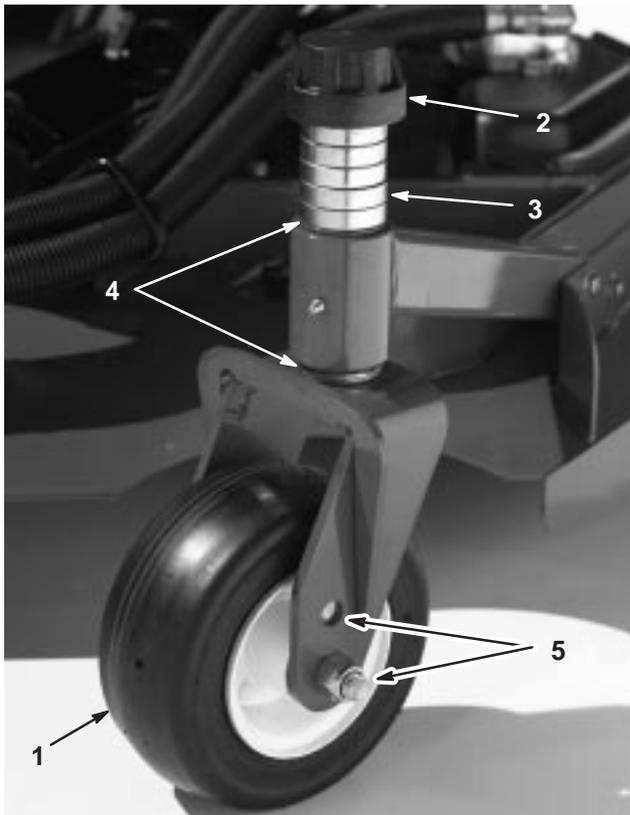

Figure 14
2. Remove the tensioning cap from the spindle shaft (Fig. 14) and slide the spindle out of castor arm. Put the two shims (1/8 inch) onto spindle shaft as they were originally installed. These shims are required to achieve a level across the entire width of the cutting units. Slide